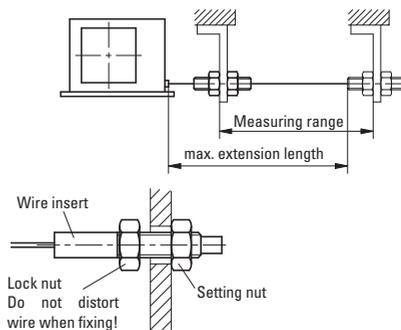

Fig. 2: Extension length check
- After mounting, check that the maximum extension length complies with the application (fig. 2). The wire end piece / wire must be pulled out up to the planned fixation point. Wire torsion should be avoided.
Pull out the wire perpendicular to the wire outlet (fig. 2).